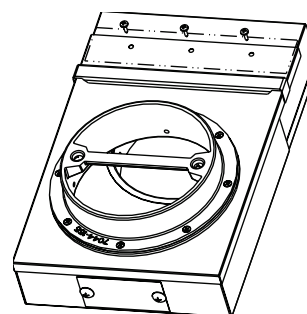

Figure 17.5
4. Cut the gasket to the proper length and slide in between the upper and lower chambers centered on the screw holes. Attach the upper and lower chambers with screws provided. **Figure 17.5**.